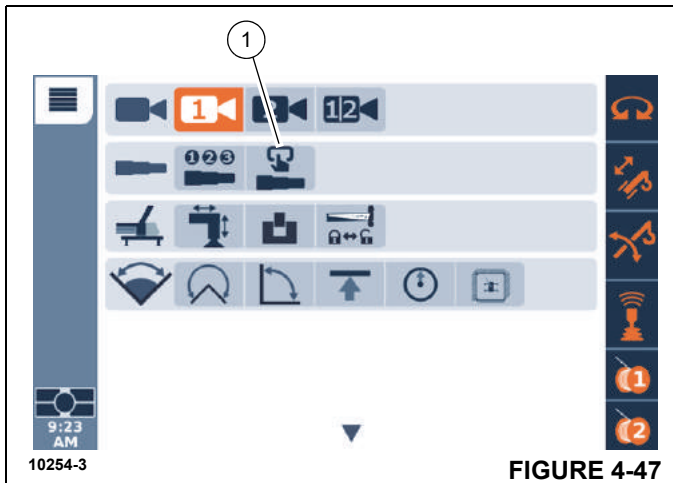
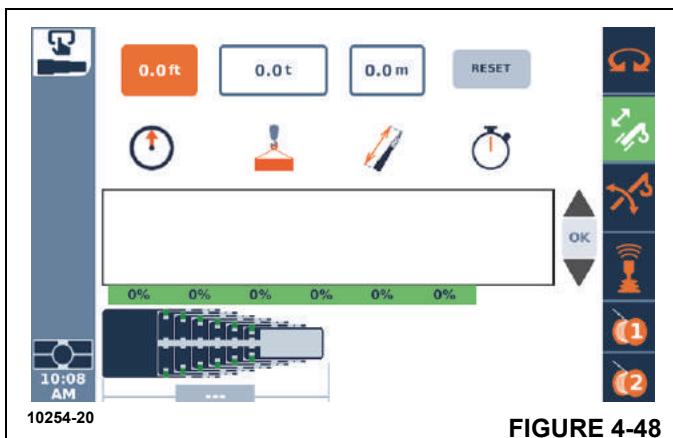

FIGURE 4-47
FIGURE 4-48
The Boom Configurator is selected from the menu system on the ODM as shown in Figure 4-47. Once selected, the Boom Configurator screen is shown (refer to Figure 4-48). This screen allows lift plan information such as hook radius, hook load, and boom length to be entered. The screen will then present a table of possible boom configurations to select from. The table will show the load chart based information for the configurations, as well as an approximate time (in seconds) to complete the telescoping to the boom
1. Enter the Boom Configurator screen (should appear similar to Figure 4-48).